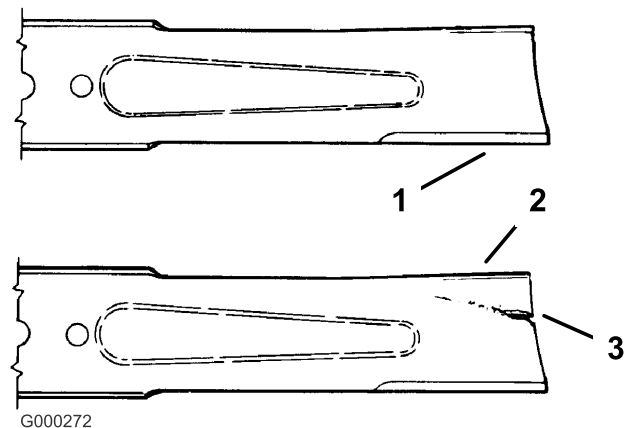

Figure 47
1. Inspect the cutting edges (Figure 47). If the edges are not sharp or have nicks, remove and sharpen the blades. Refer to Sharpening the Blades.
2. Inspect the blades, especially the curved area (Figure 47). If you notice any damage, wear, or a slot forming in this area (item 3 in Figure 47), immediately install a new blade.